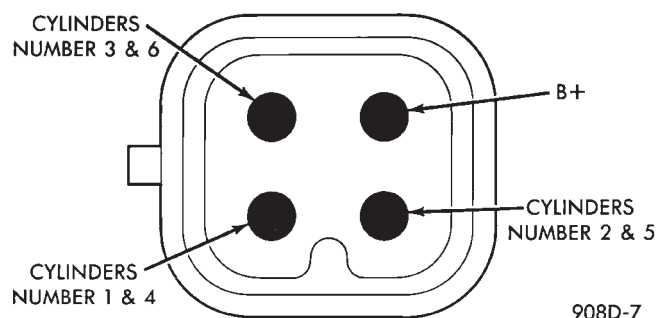

Fig. 3 Ignition Coil Terminal Identification
(3) Measure the primary resistance of each coil. At the coil, connect an ohmmeter between the B+ pin and the pin corresponding to the cylinders in question (Fig. 3). Resistance on the primary side of each coil should be 0.5-0.7 ohm. Replace the coil if resistance is not within tolerance.